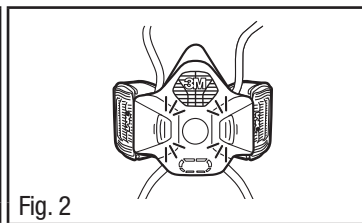

Fig. 2
2. Push the cartridge/filter into the connector until the blue cartridge/filter release button raises back with an audible sound (Fig. 2).